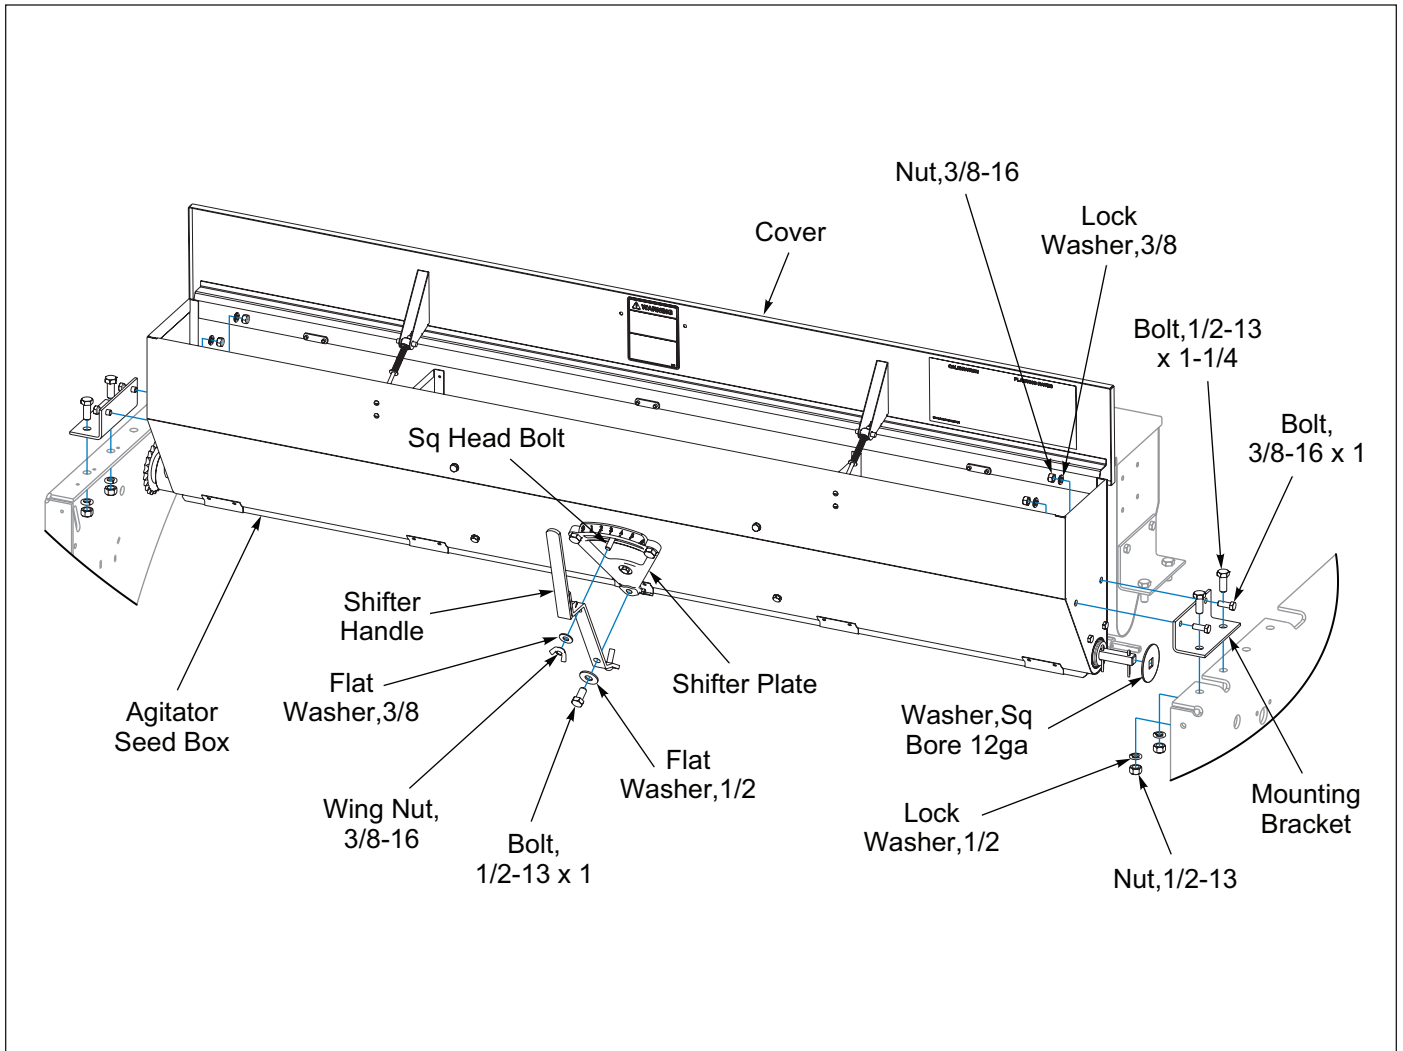

Figure 2-4: Agitator Seed Box Assembly
5. Attach the Mounting Brackets to the ends of the Agitator Seed Box Assembly with 3/8-16 x 1 Bolts, Lock Washers, and Nuts. **See Figure 2-4.**